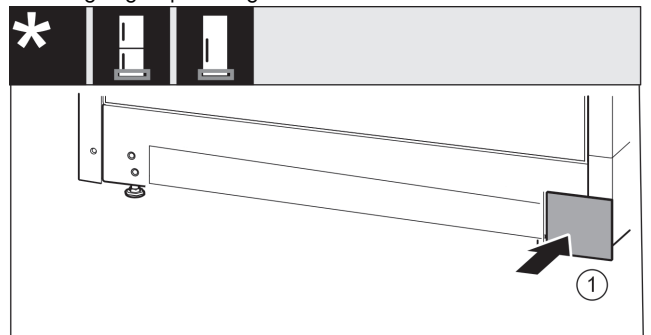

Fig. 37
► Put the cover back on the other side. *Fig. 37 (1)*